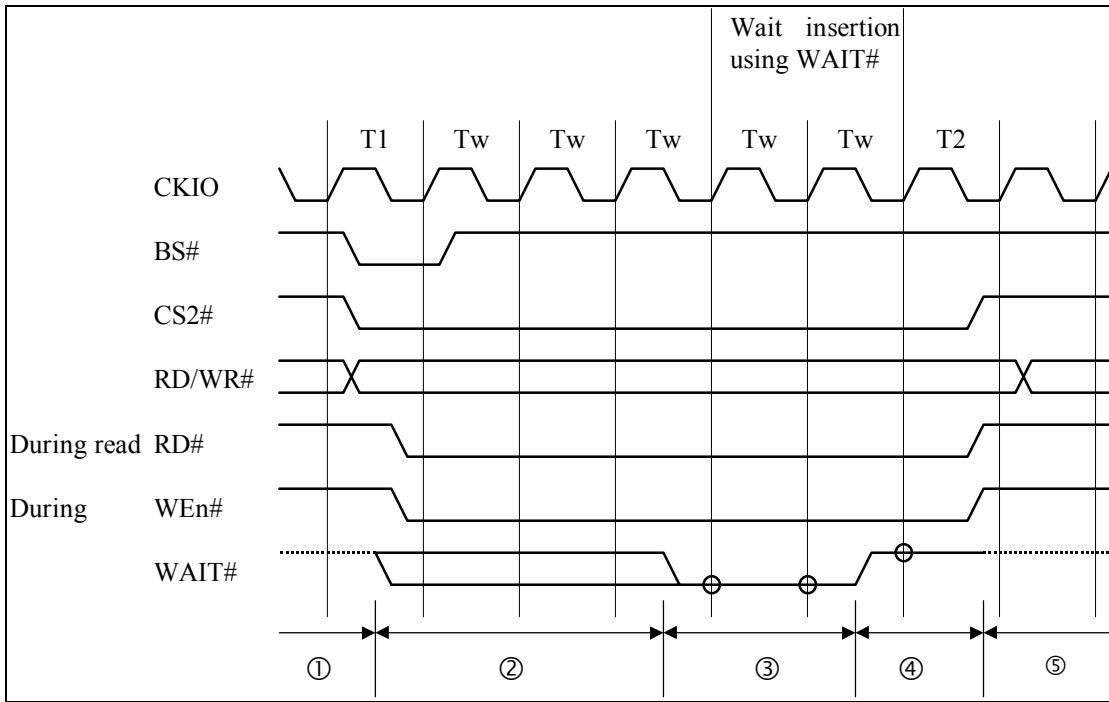

Figure 5-42 WAIT# Example
The external circuitry can insert the wait state by turning WAIT# to become active. WAIT# is also used inside the CARD-E09A, and wired door with WAIT# from the connector. For this reason, outside the CARD-E09A it must be driven at open-drain. However, because signal raise at usual open-drain is slow, timing check becomes difficult. In this situation, driving WAIT#, as shown in Figure 5-42, can be a solution. In this example, the software wait (wait inserted by registers of SH7709A) inserts two waits by using the three-wait, WAIT# input. The external device does not drive WAIT# when CS2# is inactive. (① in the figure). When CS2# becomes active, drive WAIT# to become HIGH or LOW. (② in the figure). And, set WAIT# to LOW at the fourth Tw raised edge so that "L" sampling is performed (③ in the figure). Next, to end the cycle, set WAIT# to HIGH at T2's raised edge so that "H" sampling is performed (④ in the figure). Finally, when CS2# becomes inactive, stop the WAIT# drive (⑤ in the figure). Wait# is pulled up inside the CARD-E09A. Because WAIT# is input into SH7709A as it is, be sure to use it as the signal which has secured the setup and holdtime of CKIO.